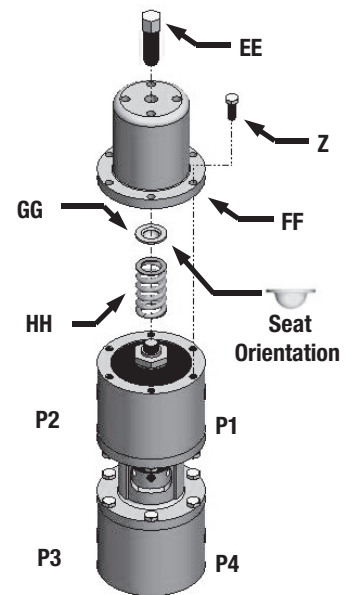

Figure 19
C. For a VRP-SB-PID-125 (Figure 19):
- a. Place the Blue Spring (HH) onto the Spring Nut (U). Then place the Spring Seat (GG) onto the Blue Spring (HH).
- b. Secure the assembly by fastening the Spring Cartridge (FF) to the Bottom Body (H) with 6, 1/4-20 x 3/4" HHCS (Z). Torque to 100-110 in.-lbs.
- c. Thread the Spring Compression Screw (EE) into the Spring Cartridge (FF) all the way until it stops.